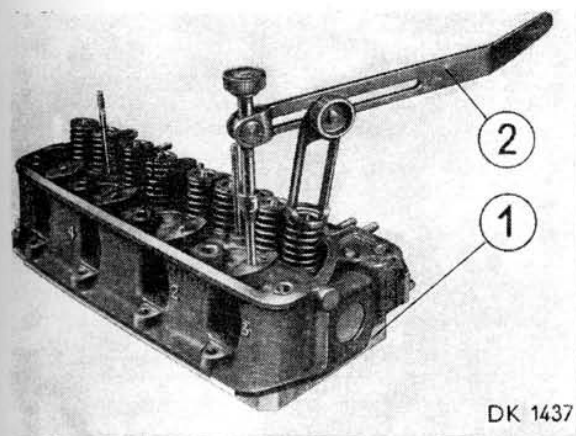

Fig. 2.16/2 - Refitting Valve Springs
2. Swing the rockers into the pushrods, screw down the bolts and nuts (see Chapter 2.3, paragraph 29) and tighten them lightly. Then apply the full tightening torque. For the preliminary as well as final tightening observe the sequence indicated in the illustration (Fig. 2.16/1). Retighten the slackened rocker-shaft supports and lock in position.
Disassemble and reassemble the cylinder head on a work bench. It is advisable to make a support in which to place the head so that it does not rest on the stud bolts when doing a job from the side of the combustion chamber. An example is shown in Fig. 2.16/7.